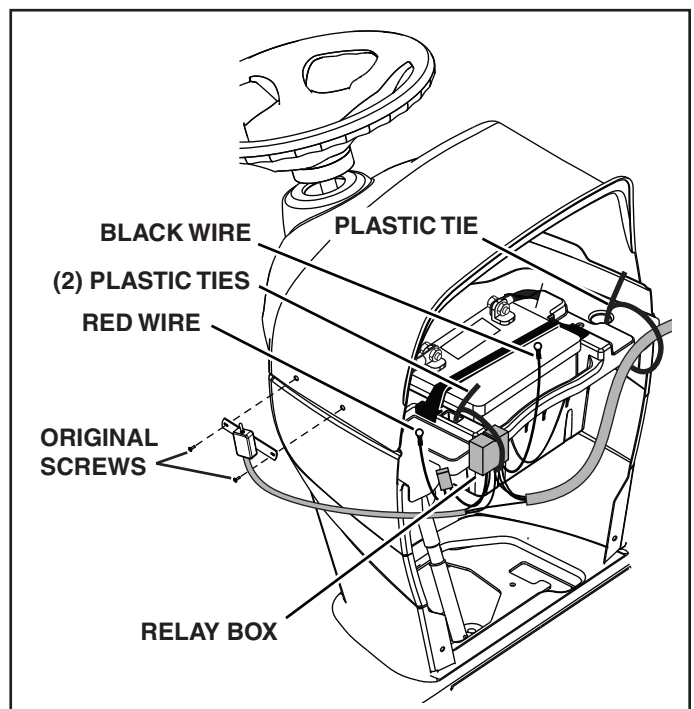

FIGURE 5 RIGHT SIDE VIEW
STEP 5: (SEE FIGURE 5)
STEP 6: (SEE FIGURE 5)